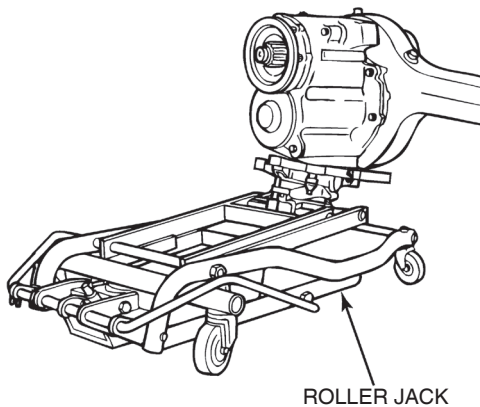

Figure 5.103
7. Use a hydraulic roller jack or a lifting tool to install the differential in the axle housing. Figure 5.103.